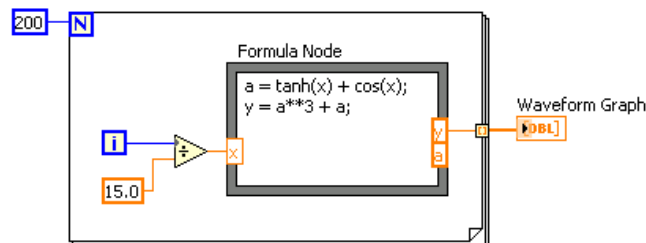

Figure 8.18
1. Build the block diagram shown in Figure 8.18.
- e. Complete the block diagram as shown in Figure 8.18.